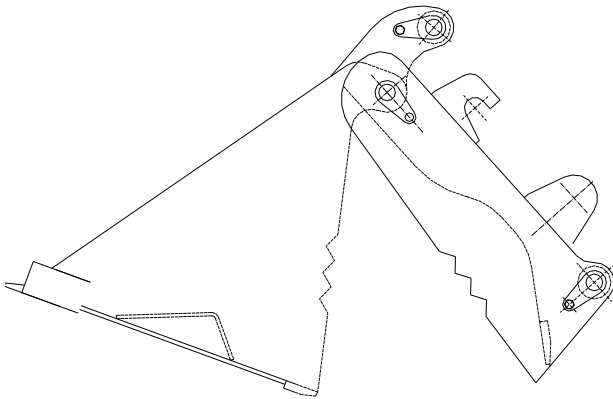

Fig.3-1 Sketch of assembled bucket
3.1.1 Assembled bucket (As shown in Fig. 3-1)